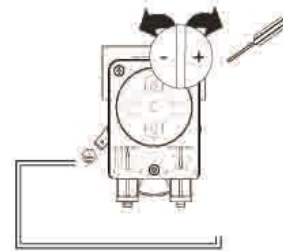

Fig.8
- 2- Open up until reached necessary quantity by screwing clockwise the needle valve of the dispenser. (Fig.8)